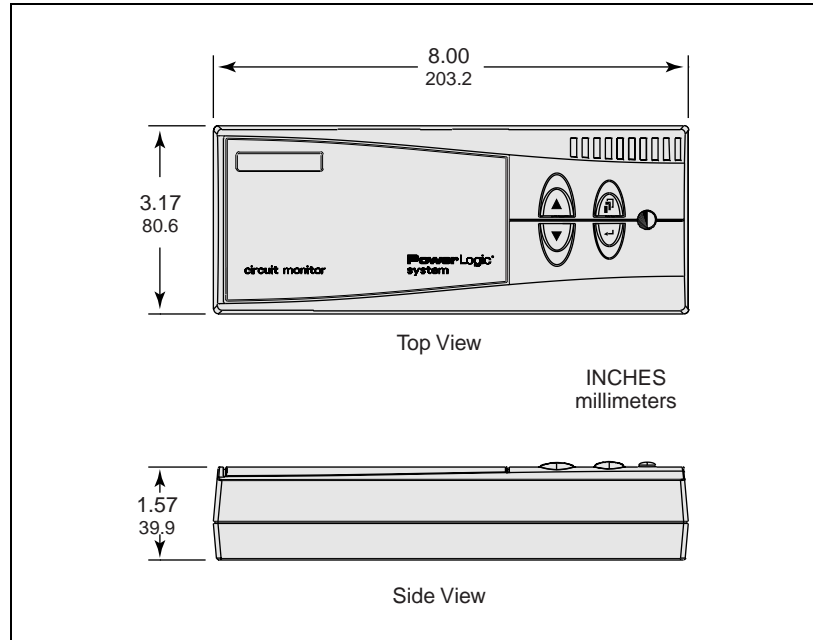

Figure 4-7 Display dimensions
- Mount the display in a horizontal, upright position (as illustrated in the top view in Figure 4-7).